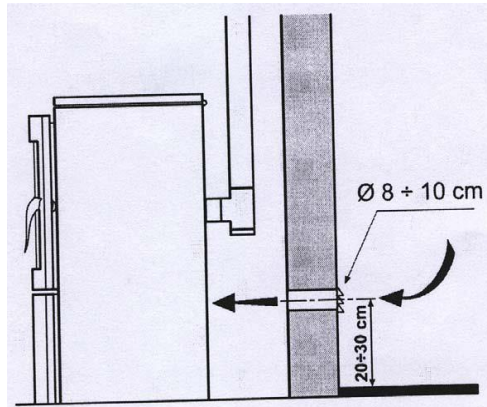

Figure 10: Minimum gaps for setting up ventilation grilles.
4.4 COMBUSTION AIR SUPPLY (FIGURE 10)